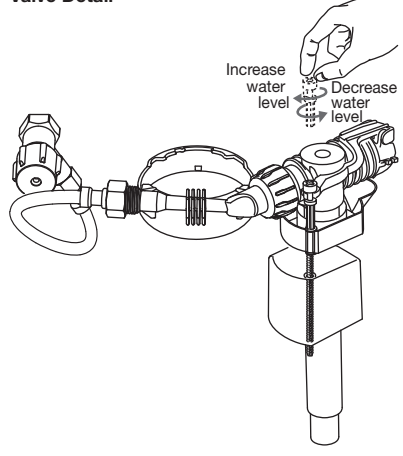

Fig. 4
- 4- Fit cistern stop valve (supplied) to the 1/2" B.S.P. nipple in the wall using approved thread seal, in the downward angled position 45° to the right hand side, as detailed in **Fig. 4**.
- 7- Adjust water level to the 4.5 litre water level mark inside the cistern by simply turning the float arm screw in a clockwise or anti-clockwise direction as detailed in **Fig. 4**.